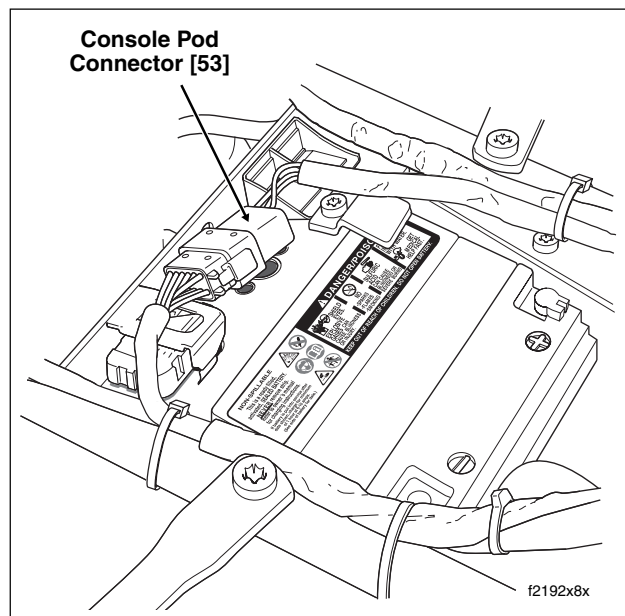

Figure 8-174. Disconnect Console Pod Connector
10. Release console pod connector [53], 12-place Mini-Deutsch, from attachment clip anchored in hole at rear of battery box. See Figure 8-174. Depress external latches and use a rocking motion to separate pin and socket halves.
4. Mate pin and socket halves of console pod connector [53], 12-place Mini-Deutsch. Install connector onto attachment clip anchored in hole at rear of battery box. See Figure 8-174.